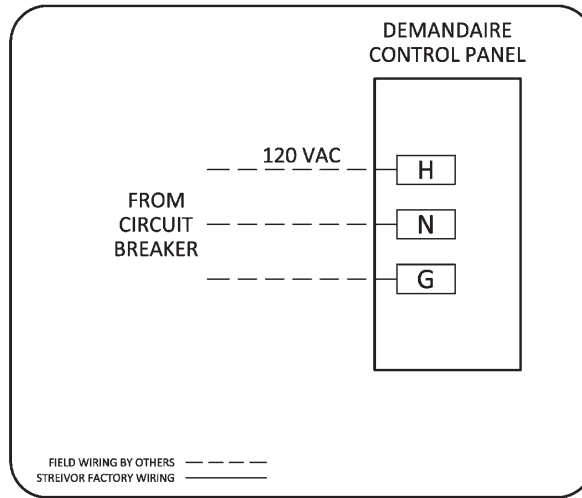

FIGURE 1: Control Circuit Input Power
- Connect 120 VAC single phase power to the terminal blocks in the control panel labeled *H*, *N*, and *Ground* (*Figure 1*).